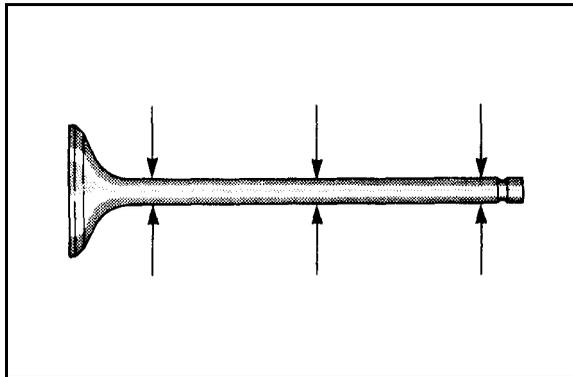

Figure 6-12
4. Measure valve stem diameter. Minimum diameter is 0.3126 in. (7.940 mm) and maximum is 0.3142 in. (7.981 mm) (Figure 6-12).